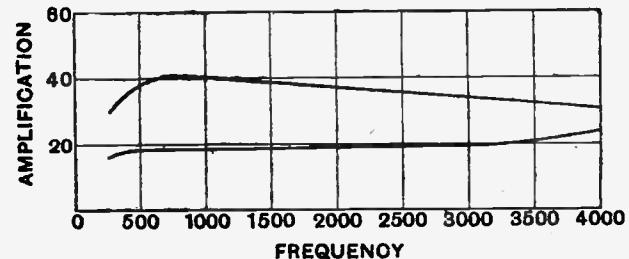

Fig. 14.—Curves of Marconiophone "Ideal" transformer. Upper curve with "R" valve, lower curve with D.E.3 valve.
45 of January 13th issue) ought now to have a definite meaning, and the gradual slope from 1,000 cycles upwards indicates that at some frequency a resonance point will be attained. Also, from the formula it will be evident that with any given transformer which shows a rising characteristic the rise can be reduced by augmenting $(r+R)$, i.e., by using a higher impedance valve. This is illustrated in a concrete manner by the curves of Fig. 14, which show the characteristics of a 4:1 transformer with valves of high and of moderate impedance.
The upper curve of Fig. 14 shows a falling characteristic, and this is due chiefly to the alternating volt drop on the valve being of importance compared with that across the transformer primary. Although the primary inductive reactance is high, the capacity reactance is low, as an example will clearly show. Taking the valve resistance and primary of transformer as 40,000 ohms. $L=25$ henries and $C=0.001$ mfd., the reactances of L and C at 3,000 cycles are respectively 460,000 ohms and 55,000 ohms. Thus the transformation ratio will be—by calculation from these data—about 33, which is in close agreement with the value given in the upper curve of Fig. 14. This fall in amplification is due to the large internal resistance of the valve, which eliminates the resonance peak due to leakage. Having dealt with the rise and fall of the amplification curve above the normal resonance point (about 1,000 cycles in Fig. 14), there still remains the important lower frequencies where transformer curves fall away rapidly. Referring to the equivalent circuit of Fig. 13, capacity and leakage effects will be negligible below frequencies of the order of 300 cycles. The amplification is now
In the last section a simple mathematical argument was advanced to account for the shapes of amplification-frequency characteristics associated with transformer-coupled amplifiers. From what precedes, the following salient conclusions can be deduced : (1) A high-impedance valve of 40,000 ohms with a transformer of moderate inductance, say, 20 henries, is conducive to a lack of amplification of both upper and lower tones. (See Fig. 14, upper curve.)
(2) A low-impedance valve, on the other hand, is conducive to good amplification of the lower tones, but, in general, there is a tendency for the higher tones to be accentuated, due to an upward tilt of the characteristic. (Fig. 14, lower curve.)